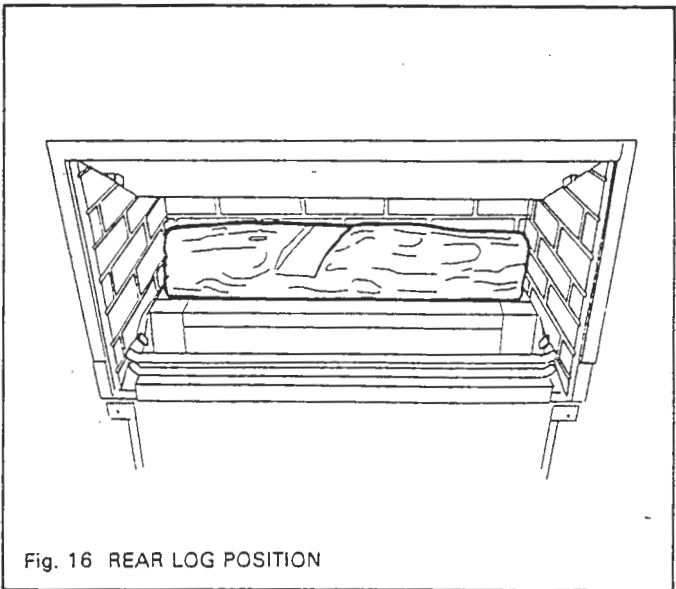

Fig. 16 REAR LOG POSITION
6.3 Place the rear log in the retaining brackets at the back of the firebox (fig. 16).